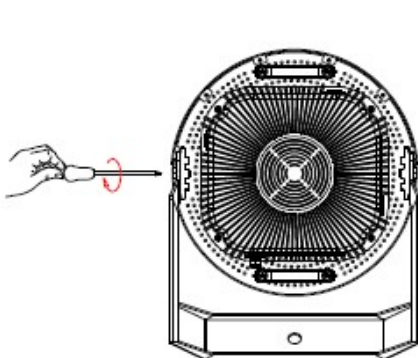
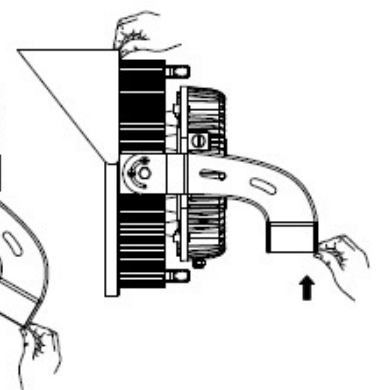

FIG.13
FIG.16
- 3) Adjust bracket angle, loosen the bracket screws with cross screwdriver and internal hexagonal wrench, adjust needed angle and re-tighten the screws. (See FIG.13 to FIG.16)